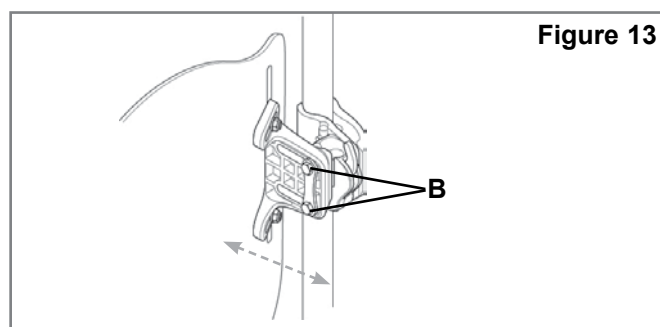

Figure 13
- To adjust J3 Back depth and angle loosen left and right nuts (Fig. 13-B) on bracket slots.
- Adjust depth and/or angle and securely tighten. The recommended torque specification is 100-110 in-lbs. (11.3 - 12.4 Nm). Ensure that none of the depth adjustment nuts (Fig 13-B) will slip or rotate.